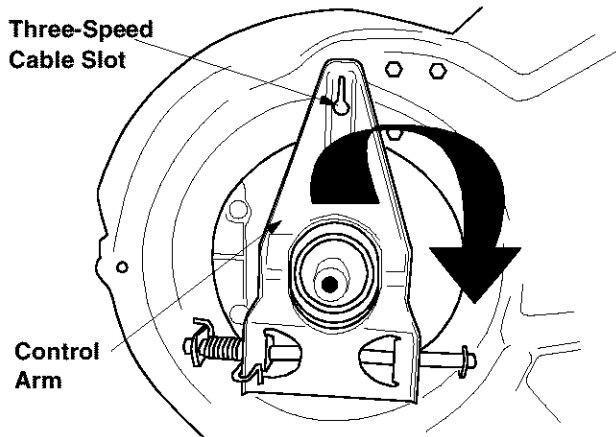

Figure 22
- Pivot the control arm back to its original position and reinstall the three-speed cable into the slot. See Figure 22.